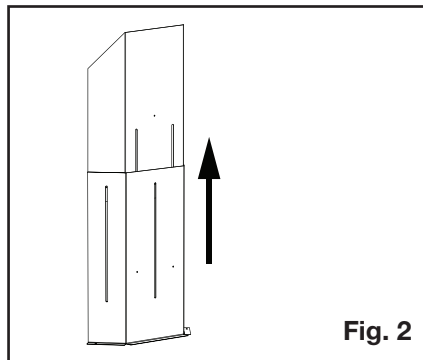

Fig. 2
2. Install one vent shield onto the standoff on one side of the firestop spacer (**Figure 2**).
2. Adjust vent shield to its maximum vertical (Figure 2).